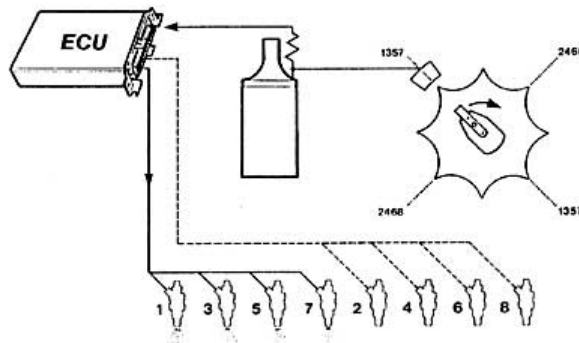

Fig.2 Injector Signal
- The signal to inject originates at the ignition distributor reluctor as shown in Fig.2